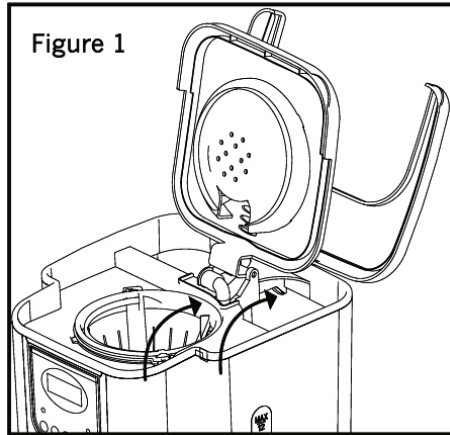

Figure 1
2. Open the water tank cover, pour the desired amount of cold water in the water tank (watch for level in the water tank). (Figure 1, see p. 6)